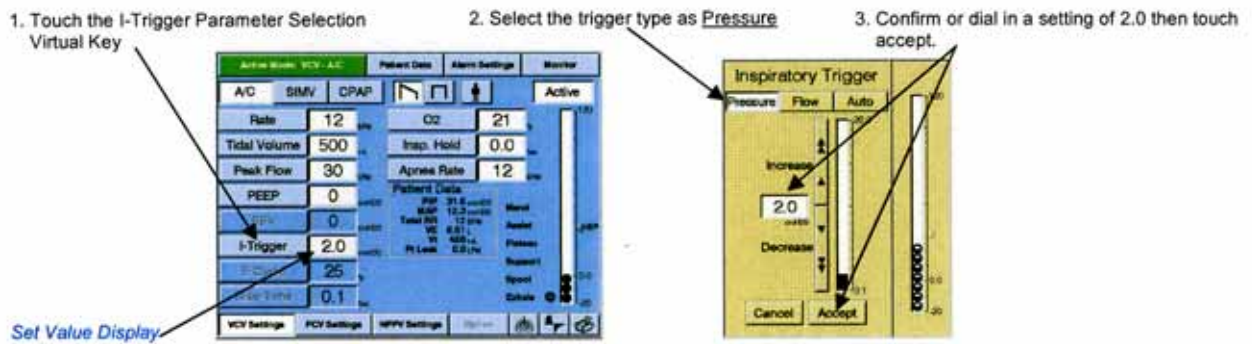

Figure 8-27: I-Trigger Sensitivity Setting
11. Verify that the I-Trigger is set to Pressure Triggering with a value of 2.0 cmH₂O (Figure 8-27) before returning the ventilator to use.